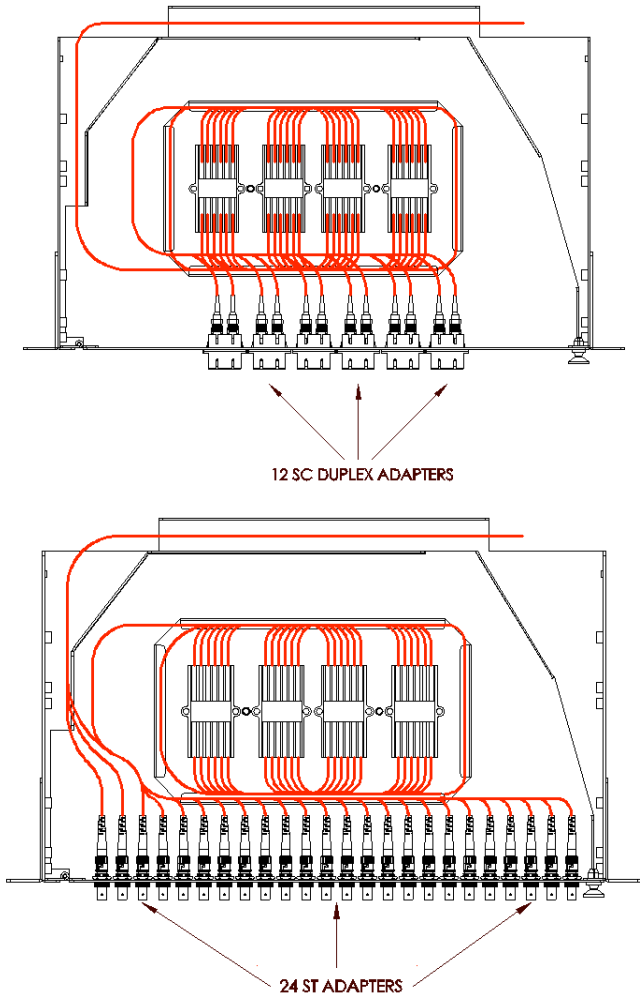

Figure 6. Terminated cable connected to the fiber adapter.
9. Terminate the multipair fiber cable and connect it to the fiber adapters. See Figure 6 below.